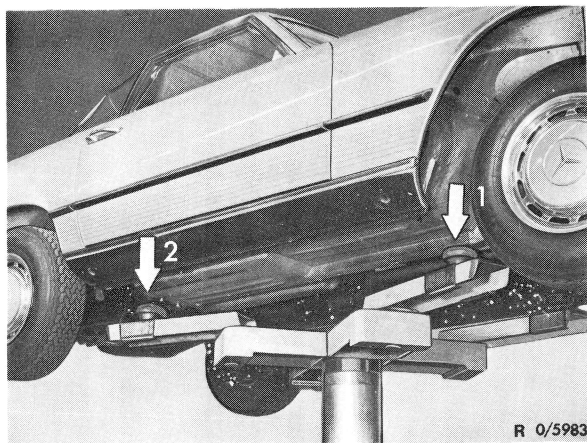

Fig. 4
Position holding blocks on front axle at inner frame side members (1), at rear axle on supporting plates of front bearing of rear axle carrier (2) (Fig. 4).